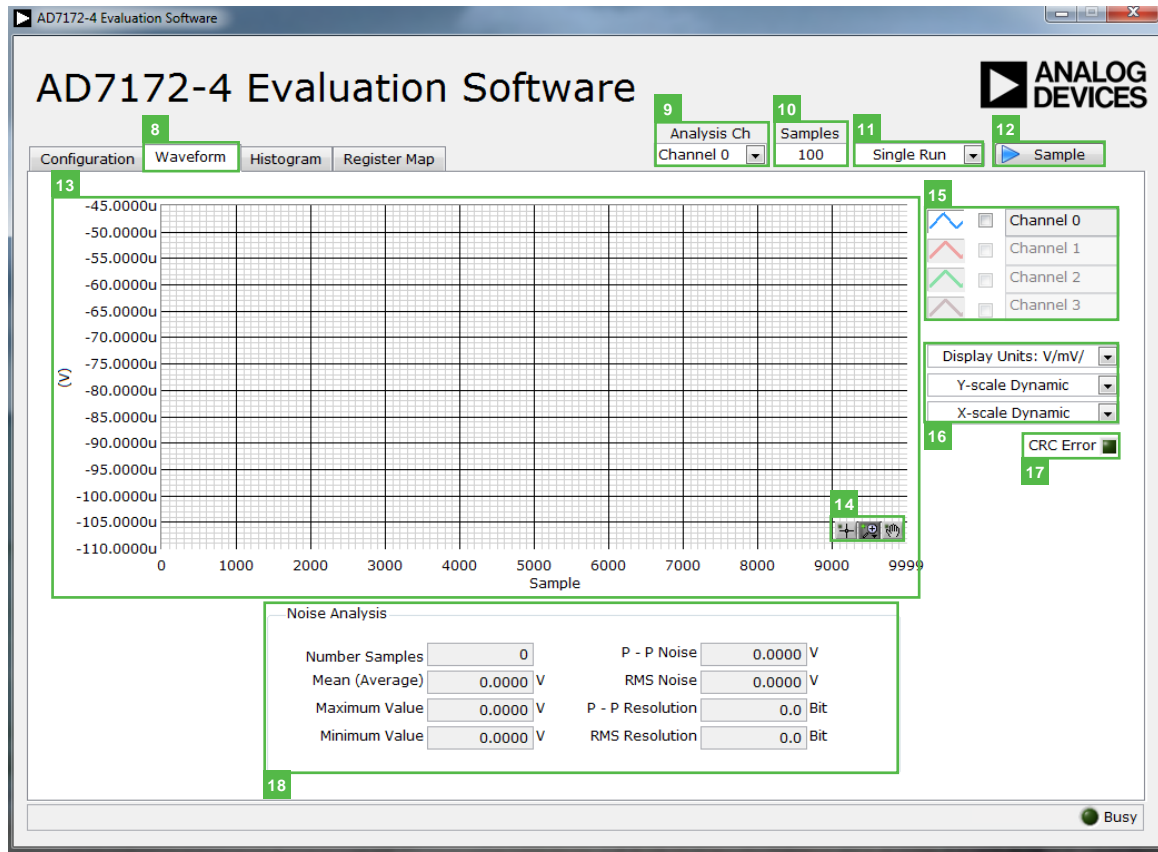

Figure 8. **Waveform** Tab of the **AD7172-4 Evaluation Software**
See Figure 8 for the **Waveform** (8) tab.
The **Noise Analysis** (18) section and waveform graph shows the analysis of the channel selected via the **Analysis Ch** (9) drop-down combo box (see Figure 8).
The **Samples** (10) numeric control and batch control (11) set the number of samples gathered per batch and indicate whether only a single batch or multiple batches of samples are gathered. The **Samples** (10) numeric control is unrelated to the ADC mode. You can capture a defined sample set or continuously gather batches of samples. In both cases, the number of samples set in the **Samples** (10) numeric input dictates the number of samples (see Figure 8).
Click the **Sample** (12) button to start gathering ADC results. Results appear in the waveform graph (13) (see Figure 8).
The data waveform graph (13) shows each successive sample of the ADC output. The control toolbar (14) in the graph allows you to zoom in on the data. Click the x-axis and y-axis to change the scales on the graph (see Figure 8).
The channel selection (15) control allows you to choose which channels display on the data waveform (see Figure 8). These controls only affect the display of the channels and do not have any effect on the channel settings in the ADC register map.
In the display units and axis controls section (16), click the **Display Units: V/mV** drop-down combo box to select whether the data graph displays in units of voltages or codes (see Figure 8). This selection affects both the waveform graph and the histogram graph. The axis controls can be dynamic or fixed. When **Y-scale Dynamic** and **X-scale Dynamic** are switched on, the axes automatically adjust to show the entire range of the ADC results after each sample batch. Click the drop down arrows to select the **Fixed** option to program the axis ranges to not adjust after each sample batch.
The **CRC Error** (17) LED icon illuminates when a cyclic redundancy check (CRC) error is detected in the communications between the software and the **AD7172-4** (see Figure 8). The CRC functionality on the **AD7172-4** is disabled by default and must be enabled for this indicator to work.
The Noise Analysis (18) section displays the results of the noise analysis for the selected analysis channel (see Figure 8). This section includes both noise and resolution measurements.